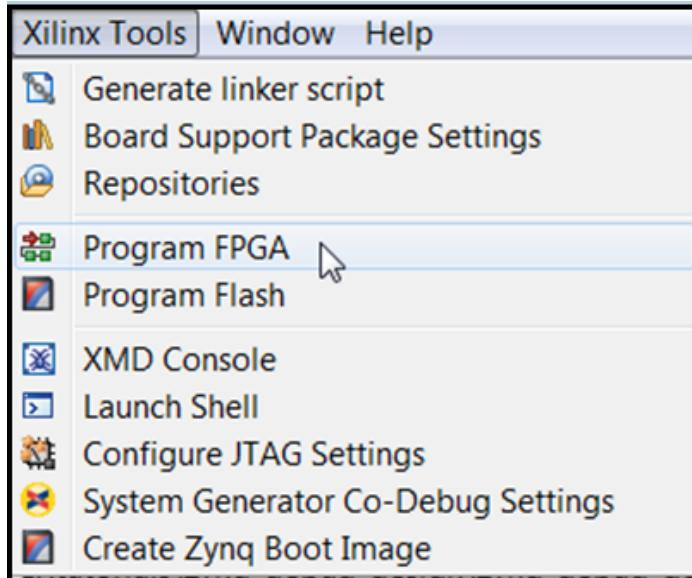

Figure 53: Program FPGA
2. Next, download the bitstream into the FPGA by selecting **Xilinx Tools > Program FPGA** (Figure 53).